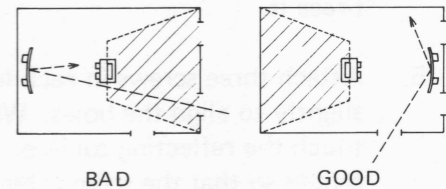

Figure 1
**Room lighting.** The textured aluminum reflecting surface of the screen reflects light in somewhat the same way that a mirror does. Light striking the screen from one side will reflect off to the other side. But light arriving at the screen from the direction of the viewing area will be reflected back toward the viewing area, spoiling the picture contrast. So, if possible, the screen should be placed adjacent to windows rather than opposite them. Figure 1 indicates good and bad placement relative to windows. With the "good" setup it would be possible to watch television comfortably during the day, with only light-colored shades or venetian blinds in the windows to prevent full direct sunlight from striking the screen. A moderate amount of diffuse or indirect daylight from the windows will have no effect. But in the "bad" setup even a small amount of daylight from the windows would reflect back at the viewers, washing out the picture, making it necessary to fully darken the room by blocking the windows with opaque shutters or dark curtains.